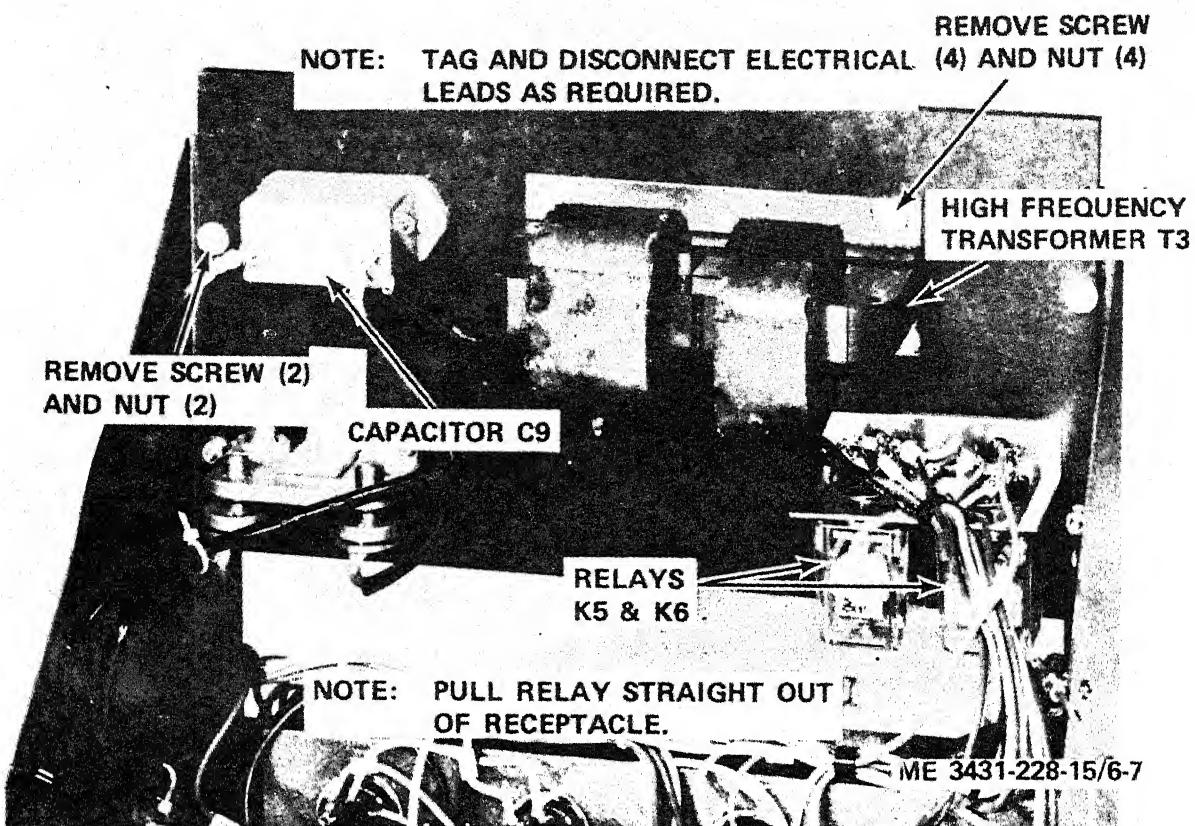

Figure 6-7. High frequency transformer T3, relays K5 and K6, and capacitor C9, removal and installation.
- (1) Remove timer and high frequency drawer (para 3-19).
- (2) Refer to figure 6-7 and remove the high frequency transformer.
- (1) Refer to figure 6-7 and install the high frequency transformer.
- (2) Install the timer and high frequency drawer (para 3-19).
(1) Remove the timer and high frequency drawer (para 3-19).
(2) Refer to figure 6-7 and remove the capacitor.